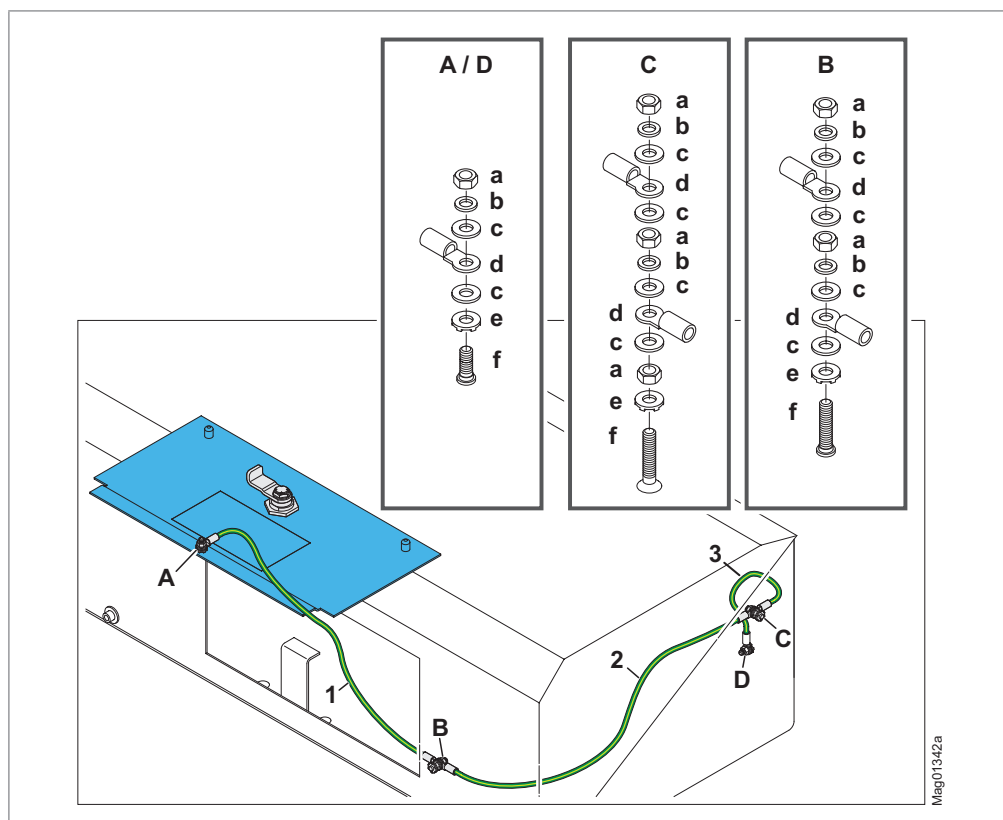

Fig. 2: Earthing points service doors, cover, and support beam (only shown for one service door; exemplary representation)
- A Earthing point service door (single) ↗ Page 17, Fig. 2
- B Earthing point cover (double) ↗ Page 17, Fig. 2
- C Earthing point support beam (double) ↗ Page 17, Fig. 2
- D Earthing point mounting panel support beam (single) ↗ Page 17, Fig. 2